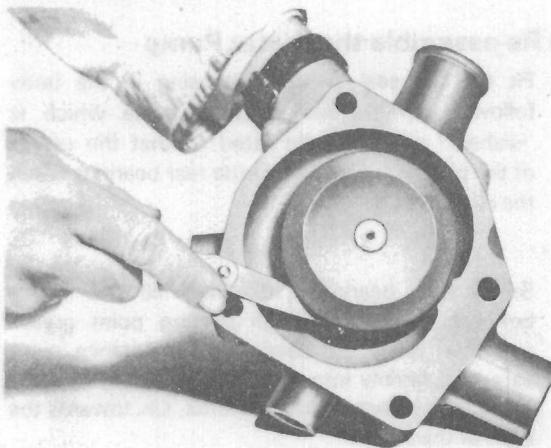

Fig. M.4.
7. Press the impeller on to the shaft until the clearance between the blades and the body is 0.015/0.025 in (0.38/0.64 mm). With low position pumps this clearance between the front of the impeller can be checked with a feeler gauge as shown in Fig. M.4. With high position pumps the impeller should be pressed on until the rear face of the impeller is 0.551/0.556 in (14.00/14.12 mm) below the rear face of the water pump.